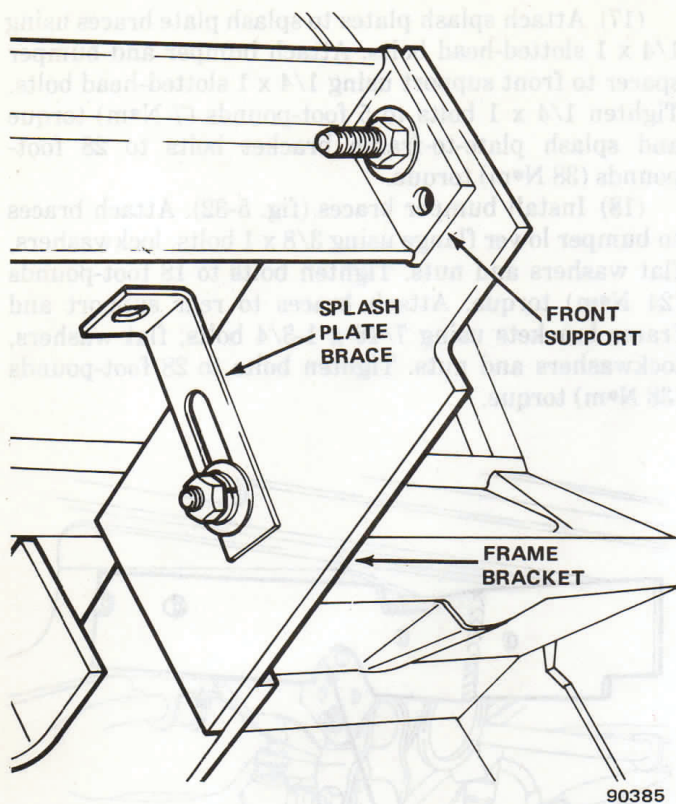

Fig. 5-30 Splash Plate Brace Installation
(12) Attach front support ends to each frame bracket using  $3/8 \times 3/4$  bolts, lockwashers and nuts. Tighten bolts to 18 foot-pounds (24 N•m) torque.
(13) Install splash plate braces on frame brackets (fig. 5-30). Attach brackets using  $7/16 \times 1-1/4$  bolts,